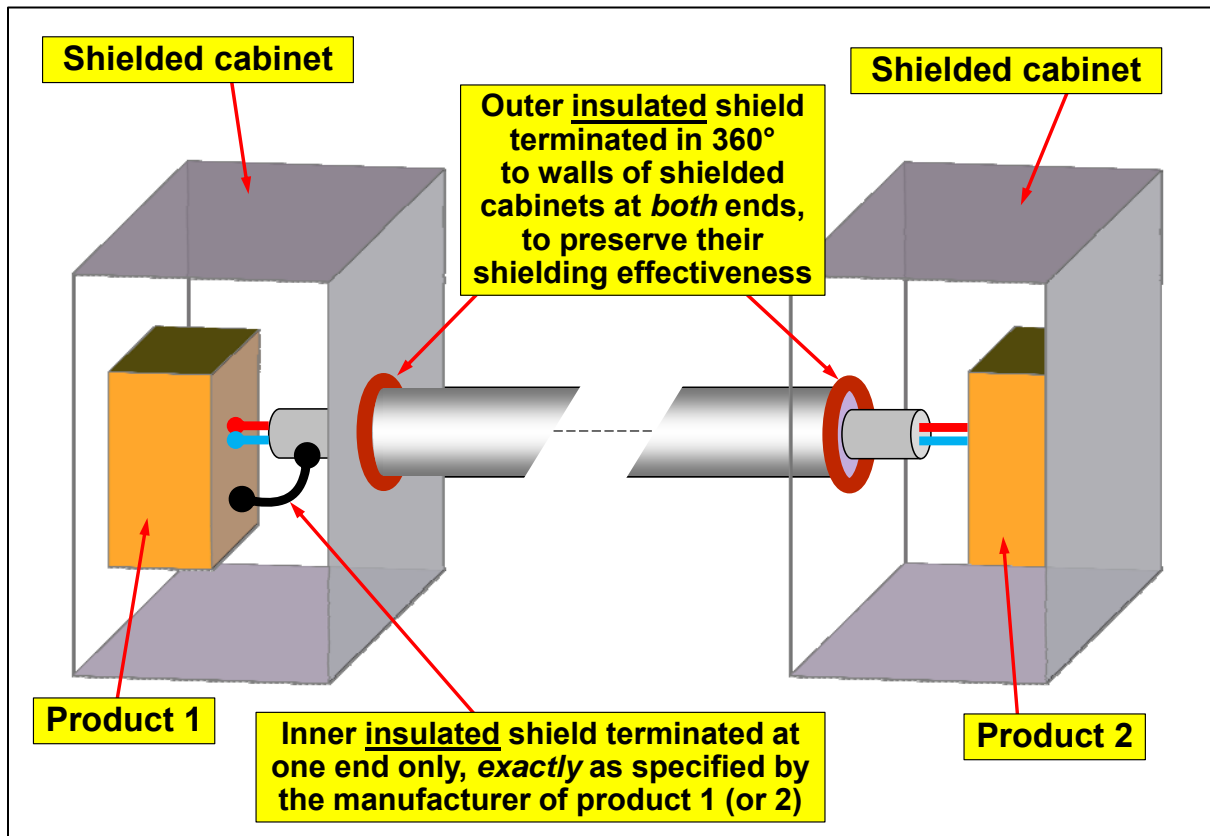

Figure 8 When termination a cable shield at both ends would contradict manufacturer's installation instructions
Figure 8 shows one way of using such an item of equipment, without compromising the shielding effectiveness of the cabinets in which the equipment is housed.
– would completely ruin the shielding effectiveness of the cabinet (see 4.3.17 of [7]; 3.10-1 – 3.10.3 of [3], and pages 148, 153, 154 of [4]). Figure 8 shows how b) above can be implemented whilst still complying with the manufacturers installation specifications.